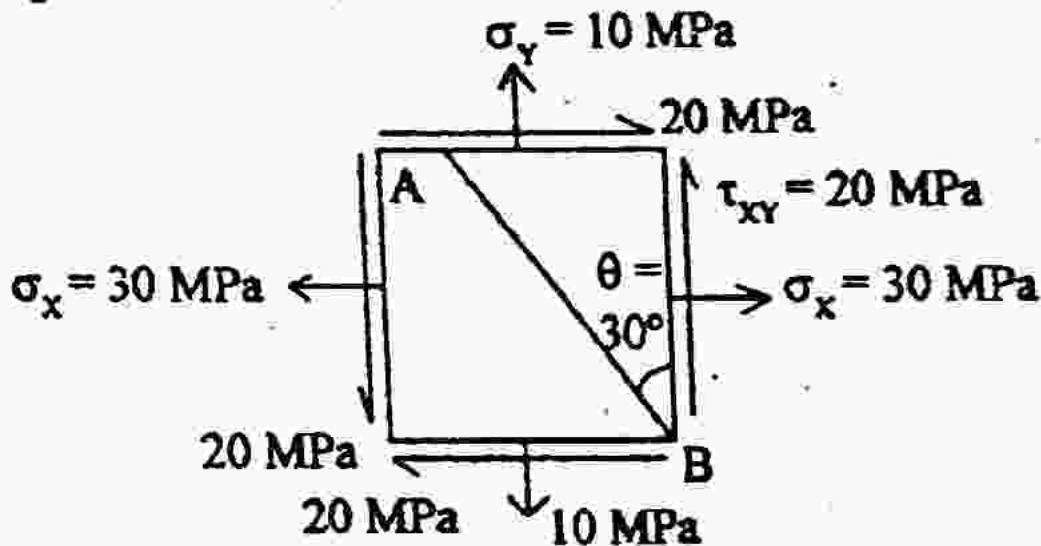

Fig. Q. 11
11. For the stressed element as shown in Fig. Q. 11, find the following :